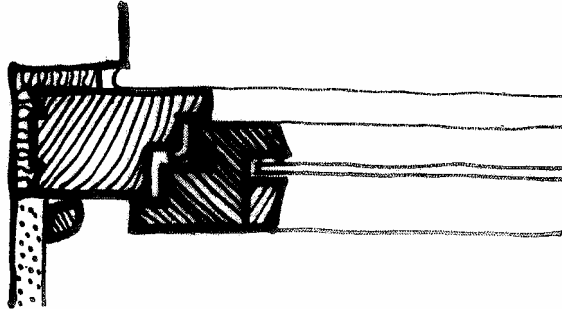

Figure 7.5 – Seal doorframe
- ❖ **Clean the contact surface and apply compressible sealer strips to the vertical surface of the frame if so specified or in retrofit applications.** *Fig7.5*